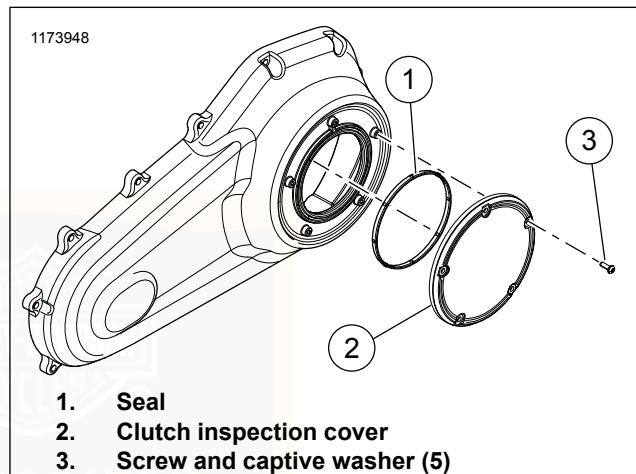
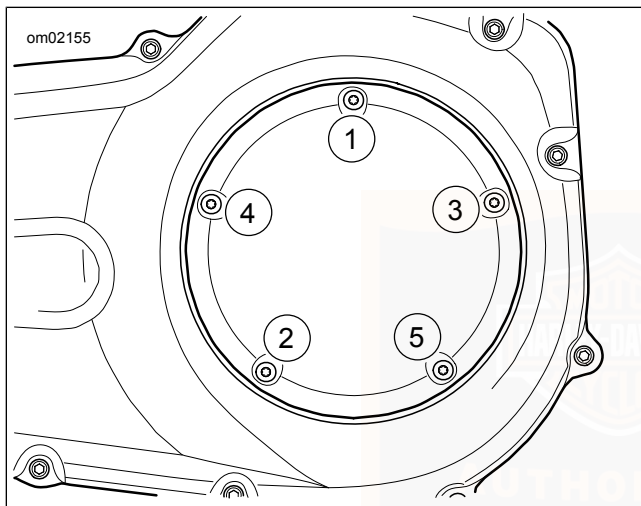

Figure 62. Clutch Cover (Typical)
Figure 63. Clutch Cover Tightening Sequence
6. See Figure 62. Remove screws (3) and clutch inspection cover (2).
- a. See Figure 62. Install **new** seal (1) in groove in cover.
- b. Secure clutch inspection cover with screws with captive washers (3).
- c. See Figure 63. Tighten in sequence shown.